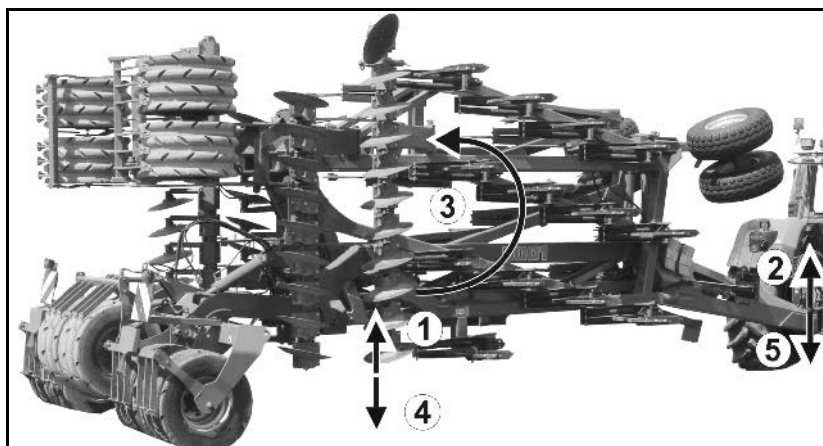

Fig. 60
- Completely raise the machine (Fig. 60/1), headland setting.
2. Raise the tractor lower links (Fig. 60/2).
→ Completely raise the machine (Fig. 60/1), headland setting!
→ Completely fold up the machine (Fig. 60/3).
→ Lower the machine (Fig. 60/4).
6. Lower the tractor's lower links (Fig. 60/5).